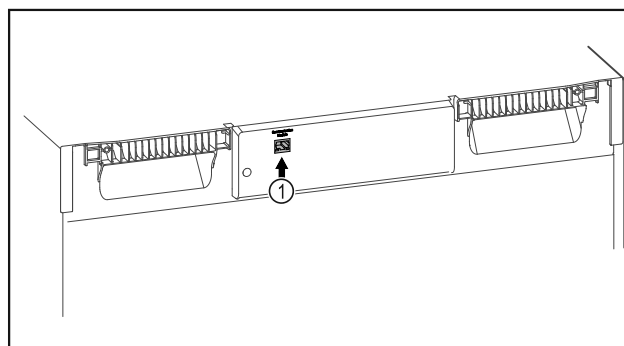

Fig. 113
- ❑ SmartModule Fig. 113 (1) is in use.